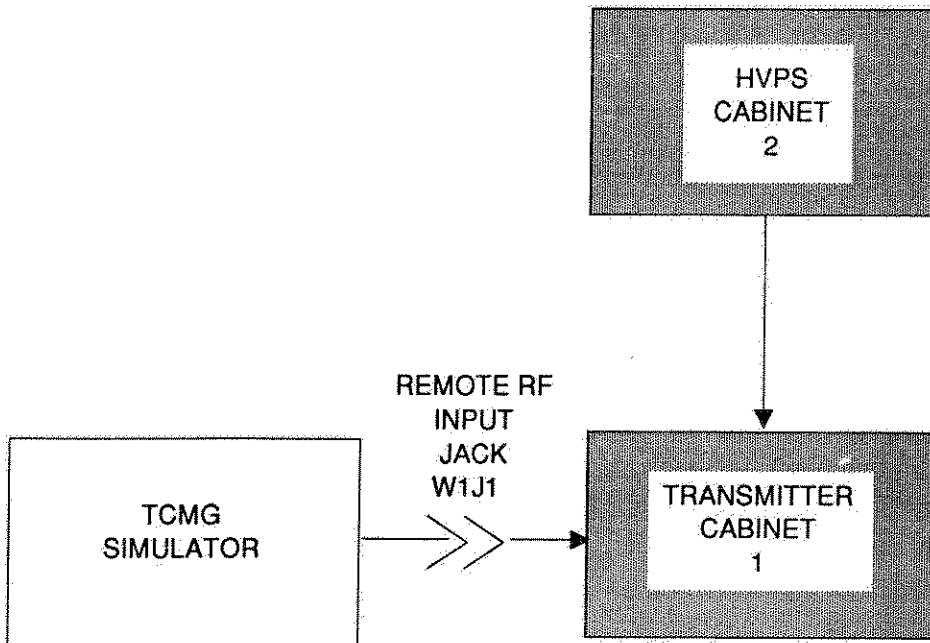

Figure 6-159. Automatic Recycle Equipment Setup
3. At top of cabinet 1, left end, rear corner, remove cover plate from metal box. Disconnect the TCMG interface cable from jack J1. Connect TCMG Simulator per Figure 6-159 and connect TCMG Simulator cable REMOTE INTERFACE jack J1. Disconnect the RF input coaxial from W1J1.